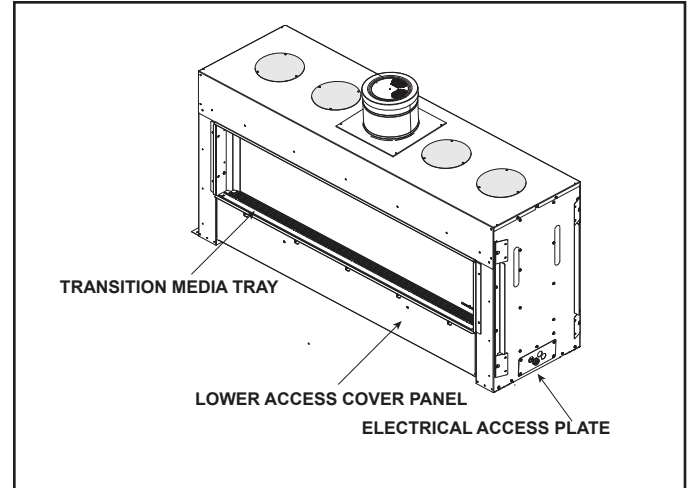

Figure 8.5. Junction Box/Control Service Access
**IMPORTANT NOTE:** The lower access cover panel is removable if finishing materials are not installed. See Figure 8.5. If finishing materials are installed, lift the transition media tray out of glass frame bracket to access valve cavity.